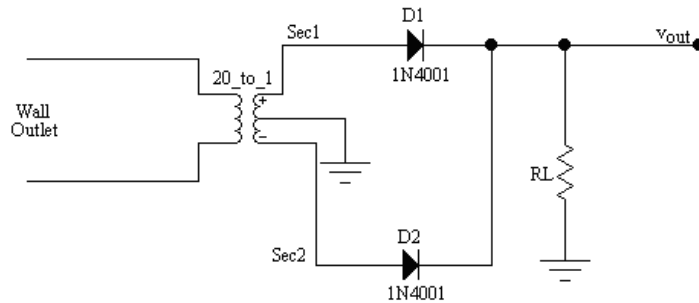

Figure 7.2: Full-Wave Rectifier Circuit
2. Calculate  $v_{OUT}$  for Figure 7.2, with  $D_1 = 1N4001$ ,  $D_2 = 1N4001$ ,  $R_L = 100 \Omega$ . Show all computer simulation.
2. Construct the circuit of Figure 7.2. Measure Sec1, Sec2,  $v_{OUT}$  using the oscilloscope.